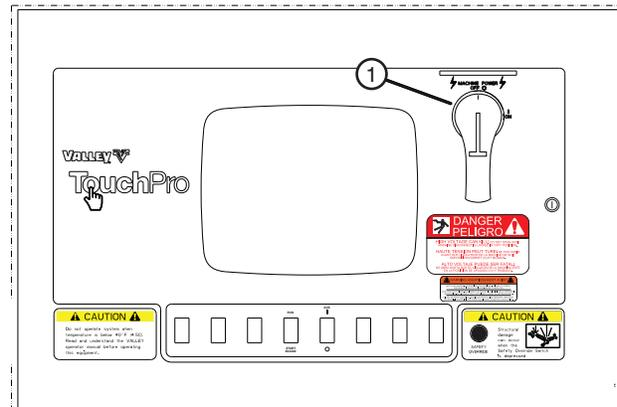

Figure 50-3 1. Main Disconnect Switch OFF
2. Turn the main disconnect switch to the OFF position. See Figure 50-3.